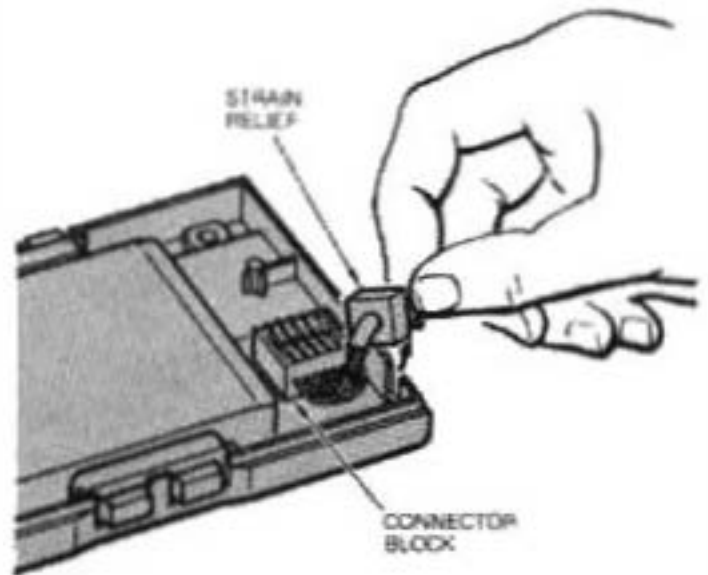

Figure 4-4
6) Remove the cable from the lower housing by lifting the cable strain relief up and out of the housing. Pry up the cable connector block from its mount in the housing. CAUTION: Be careful not to touch or bend the metal prongs. (See Figures 4-4 and 4-5.)
1) Place the replacement cable assembly in the lower housing as shown in Figure 4-4 and 4-5.